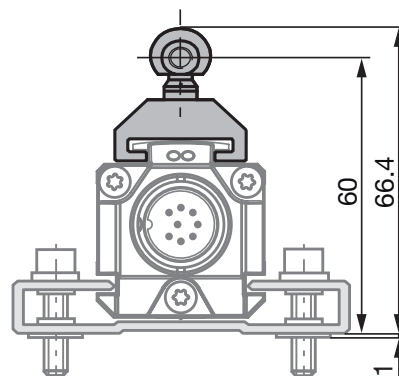
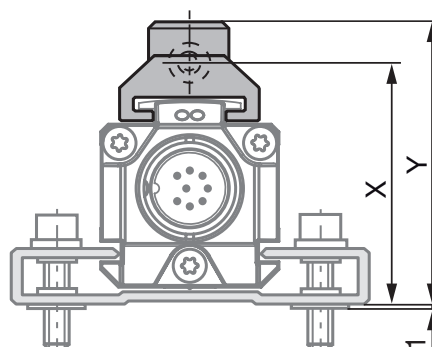
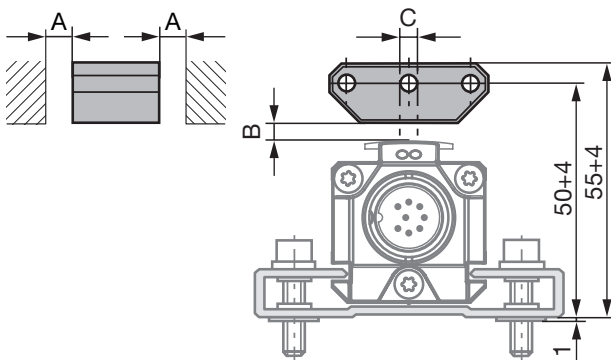
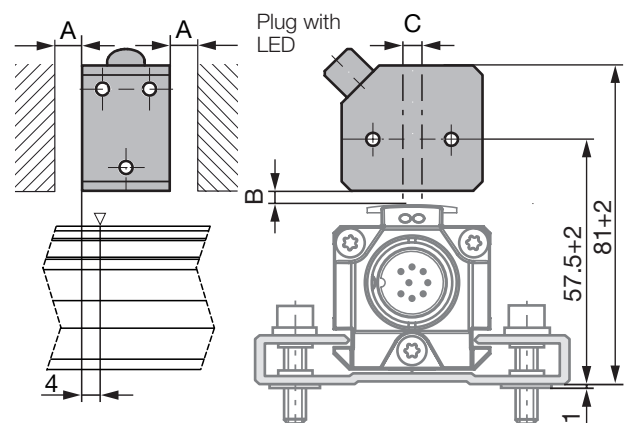

Fig. 4-1: Dimensions and distances with BTL5-F-2814-1S magnet
Fig. 4-3: Dimensions and distances with BTL5-M/N-2814-1S magnet
Fig. 4-4: Dimensions and distances with BTL5-P-3800-2 magnet
Fig. 4-8: Dimensions and distances with BTL5-P-4500-1 electromagnet (24 V/100 mA)
- i** The BTL in profile housing is suitable both for floating, i.e. non-contacting magnets (see Fig. 4-4 to Fig. 4-8), and for captive magnets (see Fig. 4-1 to Fig. 4-3).
- Ensure that the distance A between the magnet and parts made of magnetizable material is at least 10 mm (see Fig. 4-4 to Fig. 4-8).
- Maintain the following values for distance B between the magnet and BTL and for center offset C (see Fig. 4-4 to Fig. 4-8):
The measuring range is offset by 4 mm towards the BTL plug (see Fig. 4-8).